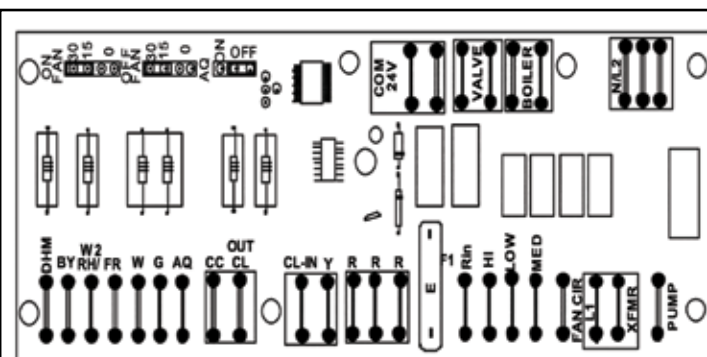

Figure 14: Hydronic Control Board for Constant Torque Motors
**AQ** – The aquastat switch is placed on the hot water line exiting side of the air handler coil. The aquastat is connected to the R terminal and the AQ terminal on the control board. The AQ jumper pin shown in Figure 14 must be in the ON position to use this feature. When there is a call for heat (24 VAC on the W terminal) and the water line temperature reaches the aquastat switch setting, the switch will close sending 24 VAC to the AQ terminal turning on the blower motor. The blower motor will not energize until the aquastat switch is closed. When the call for heat has been satisfied, the indoor blower will be de-energized after the selected OFF delay.
**VALVE** – There are two terminals used to power a 24 VAC zone valve or solenoid valve. The terminal closest to the 24V COM terminals is a 24VAC common terminal to the valve. See Figure 14. The other terminal is the 24 VAC output to the valve. When there are 24 VAC to the W terminal the control board will send 24 VAC to the valve terminals. The VALVE terminals de-energize when the 24 VAC is removed from the W terminal.